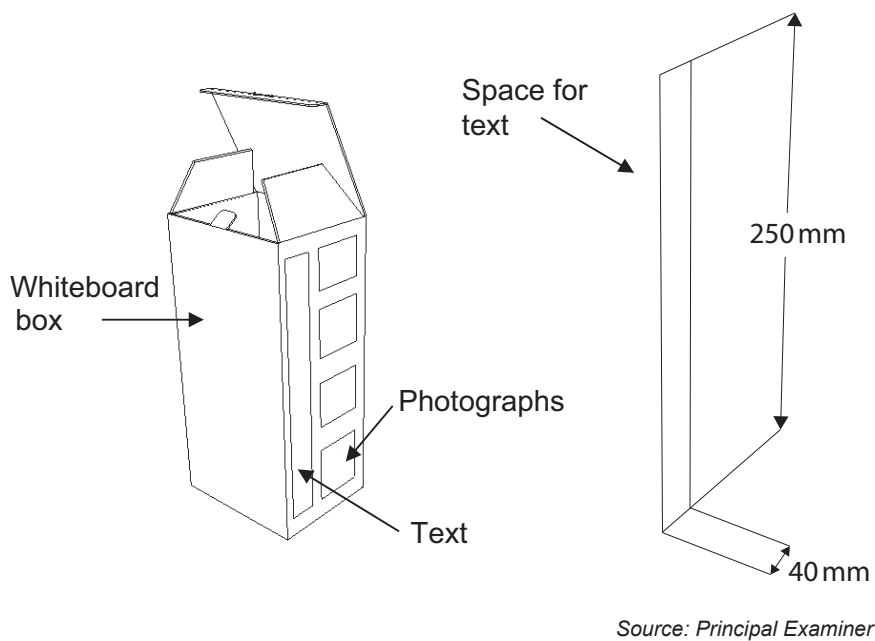

Fig. 23
- (i) **Fig. 23** below shows a photograph of a hand-held car vacuum cleaner with its accessories together with outline drawings of a whiteboard box to be used to package the product. The vacuum cleaner is used for upholstery and interiors and operates via a 12V socket. A 3 m cable and 3 accessories are provided. These accessories are packaged and inserted into the box which has four photographs, text and graphics printed on the exterior.
(i) With reference to the information in **Fig. 23** opposite and on the blank A3 pro forma (answer number **6(i)(i) & 6(i)(ii)**), produce one possible solution for the following: